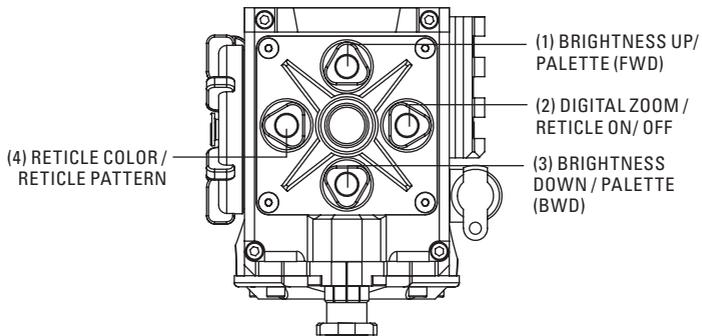

FIGURE 3-21. SETTING BUTTONS
8. Using the buttons on the control panel (Figure 3-21), configure the Zeus to adapt it to your situation. For more information on operational setting procedures, see Part 3.2 (Controls and Display Indications).